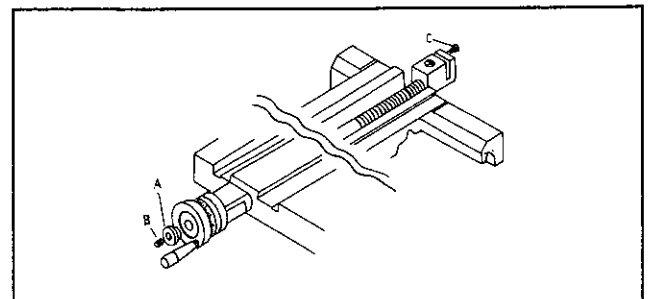

Fig.32
- (1) Lossen the set screw (B) on handwheel (Fig. 32), to adjust or tighten the plug (A) of handwheel to eliminate the backlash on handwheel.
- (2) To release the lock screw of cross slide and rotate the cross silde handwheel to move it backward till the cross slide nut of its screw get out of saddle as Fig. 32. Tighten the adjusting screw (C) slightly and repeat the handwheel rotating for the cross slide movement sequence until the backlash was eliminated and smooth movement. Re-tighten the lock screw of cross slide.